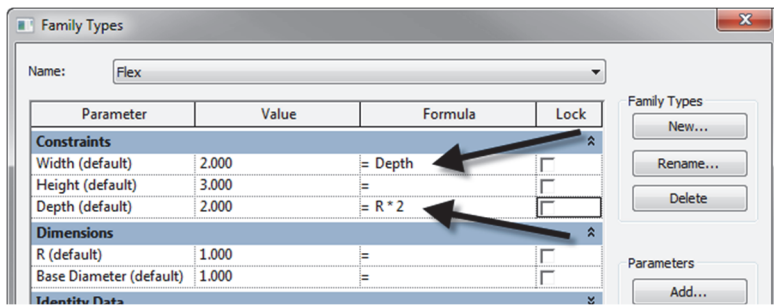

FIGURE 4.4
10. In the Formula column next to Width, Type: **Depth**. For the Formula next to Depth, type: **R * 2** (see Figure 4.4).